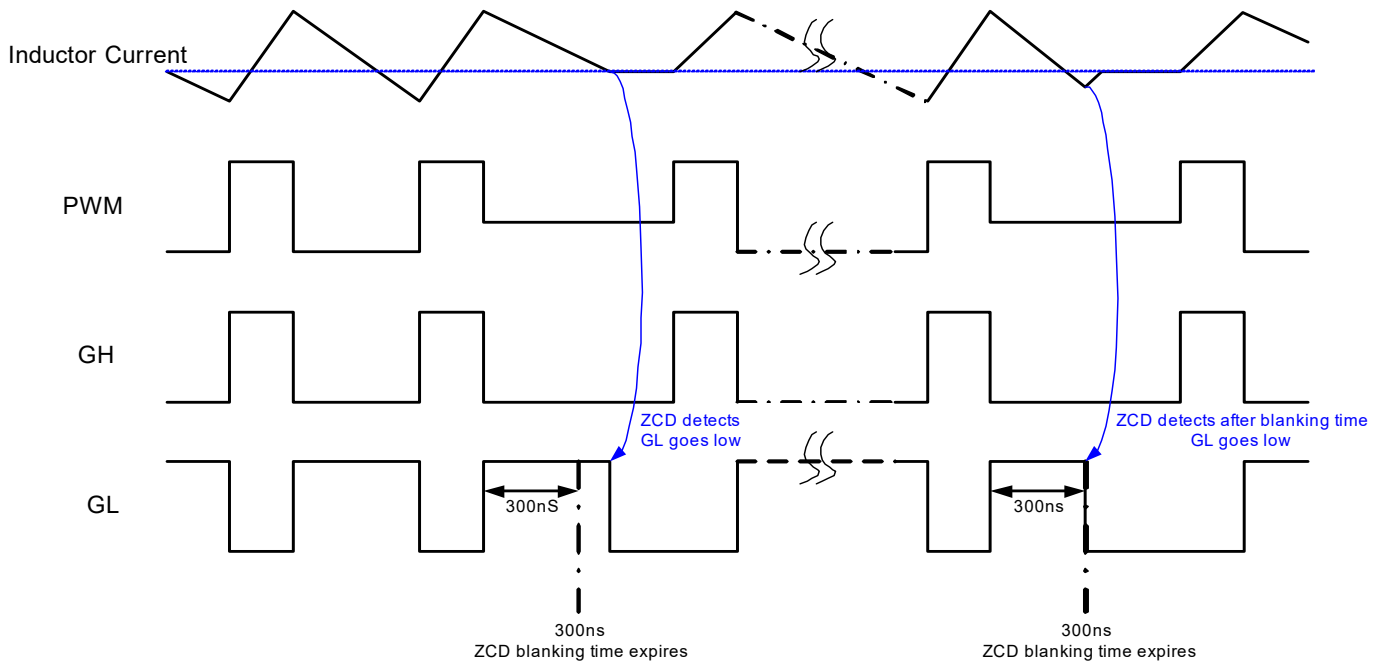

Figure 2. PWM Tri-State Input Logic Timing Diagram, SMOD# = 5V
**Note:** See Figure 2 for propagation delays and Tri-State window.